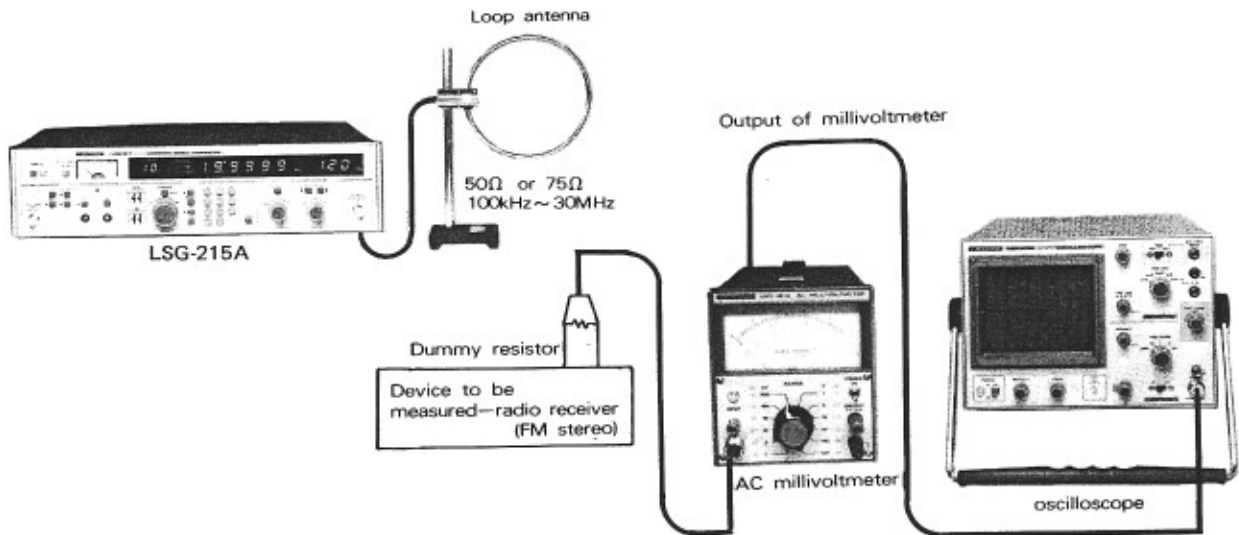
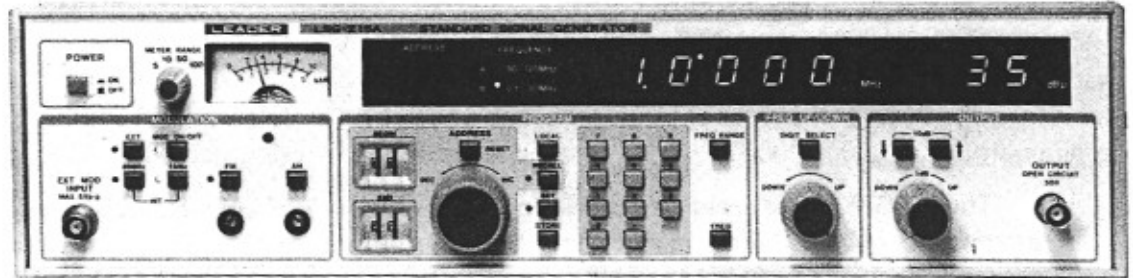

Fig. 8-5 Connection diagram of radio receiver for measurement
Fig. 8-6 Setting of the LSG-215A for measurement of AM practical sensitivity
The LSG-215A is used in connection as shown in Fig. 8-5. Measurement examples of AM/FM receivers are described as practical cases. The measurement methods are based on the JIS specifications.
- (1) Connect as shown in Fig. 8-5. Set the radio receiver to AM mode.
- (2) Set the instrument to LOCAL by the (16) LOCAL mode.
- (3) Set the output level to 35 dB using the (9) 10 dB output level key and the (10) 1 dB level switch.
- (4) Set the RF frequency to 1.0 MHz using the (15) ten keys or (12) FREQ UP/DOWN switches.
- (5) Select AM modulation by the (23) AM key.
- (6) Turn on the modulation by the (27) MOD ON/OFF key.
- (7) Set the internal modulation to 400 Hz by the (29) 400 Hz key.
- (8) With the above described procedure, the initial setting is completed. The front panel, at this time, looks as shown in Fig. 8-6.